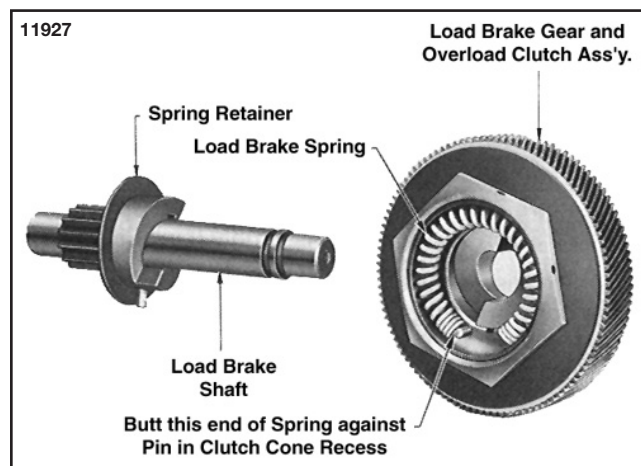

Figure 7-24. Load Brake Gear and Overload Clutch Assembly Removed from Load Brake Shaft Showing Brake Spring Installed in Clutch Cone
3. Remove load brake gear and overload clutch assembly from output pinion shaft. Pull the spring from its recess in clutch cone (fig. 7-24) but do not further disassemble gear and clutch assembly. See "NOTE" below.
**NOTE:** Disassembly of the load brake gear and overload clutch assembly (fig. 7-24) is not recommended. Clutch pressure is preset by the factory at assembly to provide the correct torque to allow the clutch to refuse loads within a specified range (150% of rated load to 200% rated load). It is suggested whenever there is a need to repair or readjust the gear and clutch assembly that it be sent to an authorized CM Hoist Repair Station where adequate tools, fixtures and appropriate test equipment is available.
2. Reassemble load brake parts following a reverse procedure of the disassembly steps listed above, observing the assembly steps (3) through (6) below.
3. Before installing spring in its recess in center of clutch cone (fig. 7-24) apply a good grade of ball bearing grease to inside of recess. Spring must be positioned exactly as illustrated, abutted against pin.